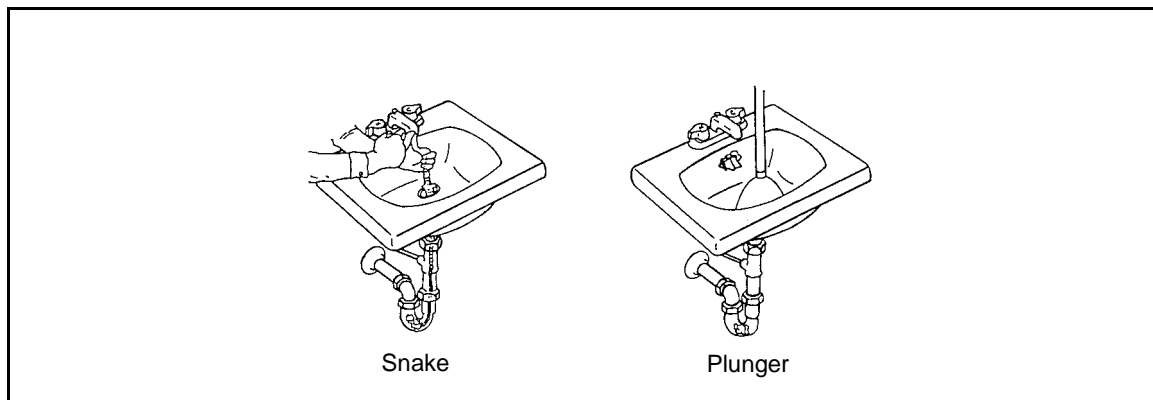

Figure 3-4. Clearing Lavatory and Sink Stoppages
- 3-18. Clear lavatory and sink P-trap stoppages (*Figure 3-4*) with a—